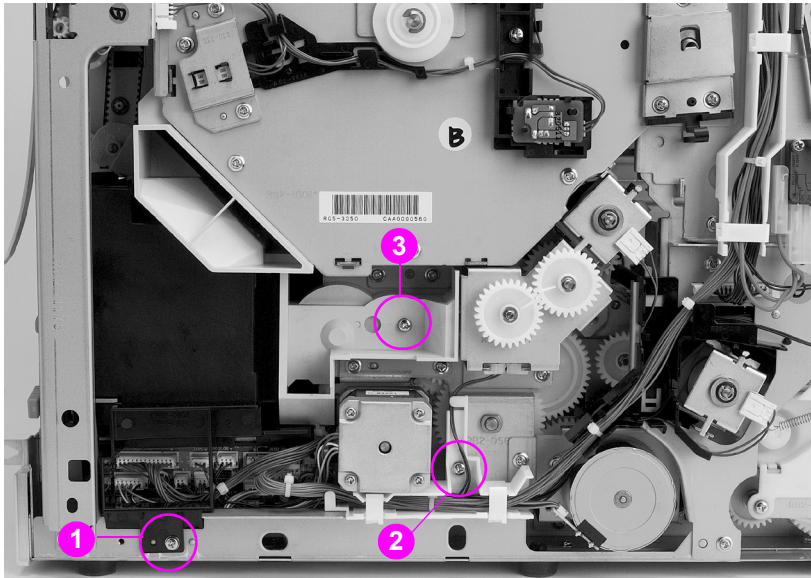

Figure 6-47 Fuser motor removal and replacement (1 of 2)
- 4 Remove the screw shown in callout 1, Figure 6-47 on page 185 and remove the black plastic piece.
- 6 Remove the screw securing the gear cover and remove the cover shown in callout 3, Figure 6-47 on page 185.